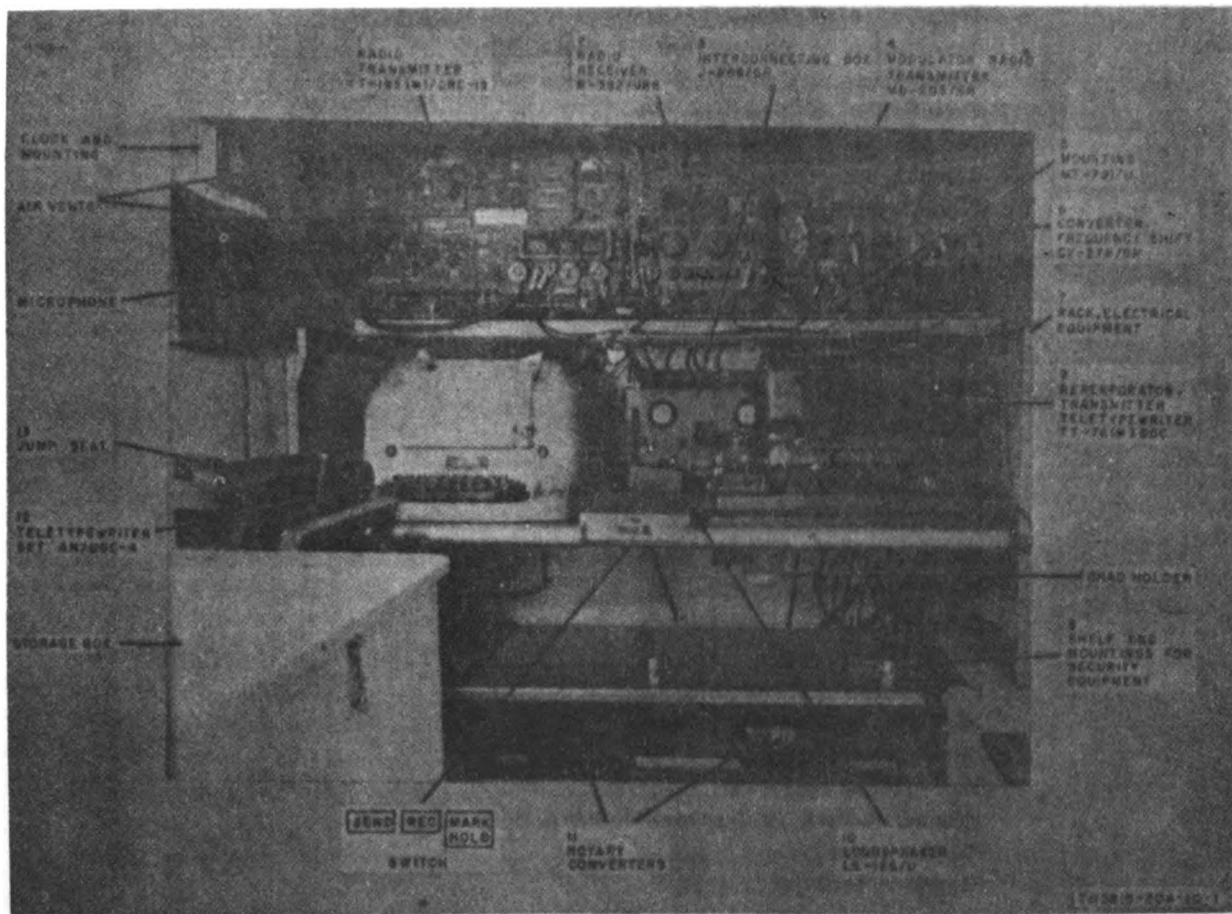

Figure 1. Radio Teletypewriter Set AN/GRC-46(*), interior view, major components installed.
a. Radio Teletypewriter Set AN/GRC-46(*) and Radio Teletypewriter Set AN/VRC-29 (fig. 1) are similar, except that the AN/GRC-46(*) is a shelter-housed transportable radio teletypewriter terminal and the AN/VRC-29 is mounted in an armored vehicle (M-59). They provide facilities for amplitude-modulated (am.) voice, continuous wave (cw), and frequency-shift-keyed (fsk) radio teletypewriter signals. Teletypewriter operation may be one-way reversible (half-duplex without break-in) or full-duplex. Full-duplex operation requires the use of an additional antenna.